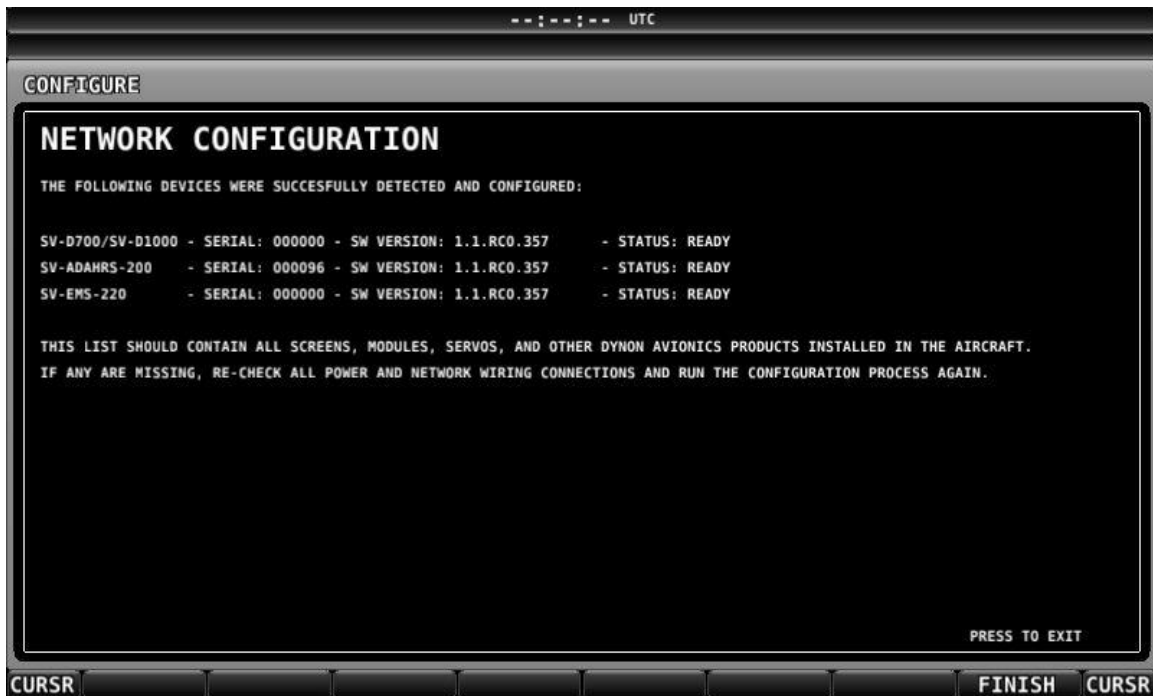

Figure 20—Successful SkyView Network Configuration Screen
2. *Press DETECT.* A successful network configuration yields the screen in Figure 20.